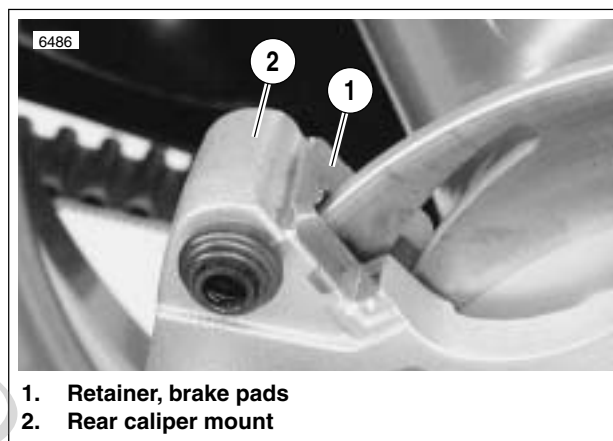

Figure 2-60. Retainer, Brake Pads
See Figure 2-60. Always make sure brake pad retainer is in place on caliper mount before installing pads and caliper.
1. See Figure 2-60. Install brake pad retainer (1) if removed.